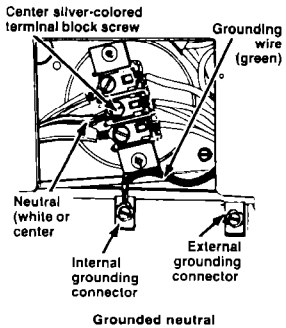

Figure 9
3. Connect the neutral wire of the flexible armored or non-metallic sheathed copper power supply cable to the center, silver-colored terminal screw of the terminal block. Connect the other wires to the outer terminals. See Figure 9. For plain-end wires, see "To connect plain wire ends," Panel F.